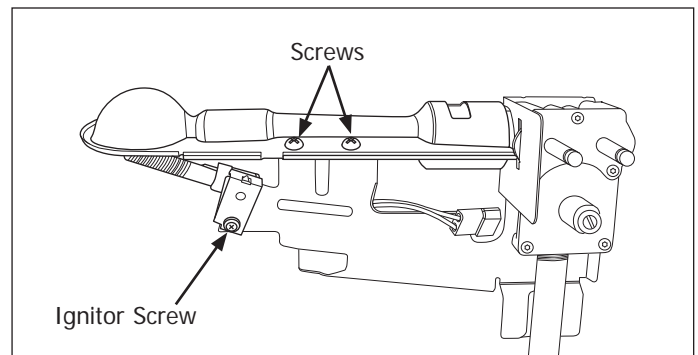

Figure 4-44.
8. Using a #2 square bit screwdriver, extract the screws securing the burner assembly to the gas valve mounting bracket. (See Figure 4-44)
10. Extract the screw securing ignitor to the gas valve mounting bracket. Lift ignitor off the tab and remove from bracket. (See Figure 4-44)